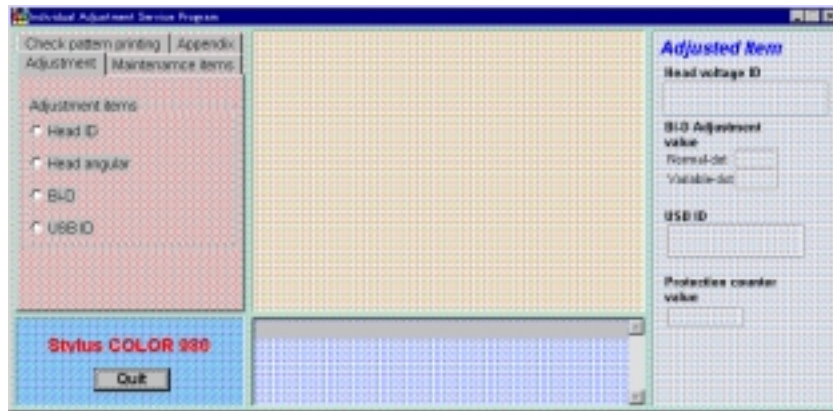

Figure 5-3. Main Adjustment Menu Screen
11. The main adjustment screen shown in Figure 5-3. appears.
2. Select "Adjustment" from the main adjustment menu (Figure 5-3) then "Bi-D".